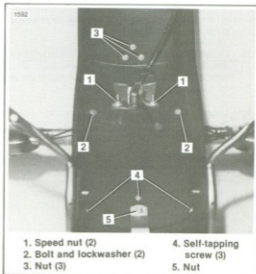

Figure 2-127. Turn Signal and Taillight Removal FL Models
8. See Figure 2-127. Remove and discard the two 1/4 in. speed nuts (1) securing the taillight. Remove the two bolts and lockwashers (2) securing the turn signal assembly.